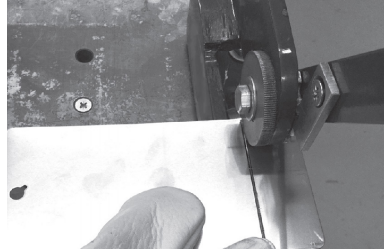

Figure 3
1. Apply moderate pressure to push the metal into the cutting dies #11 & #19 as you pull the handle #2 towards you (Figure 3).